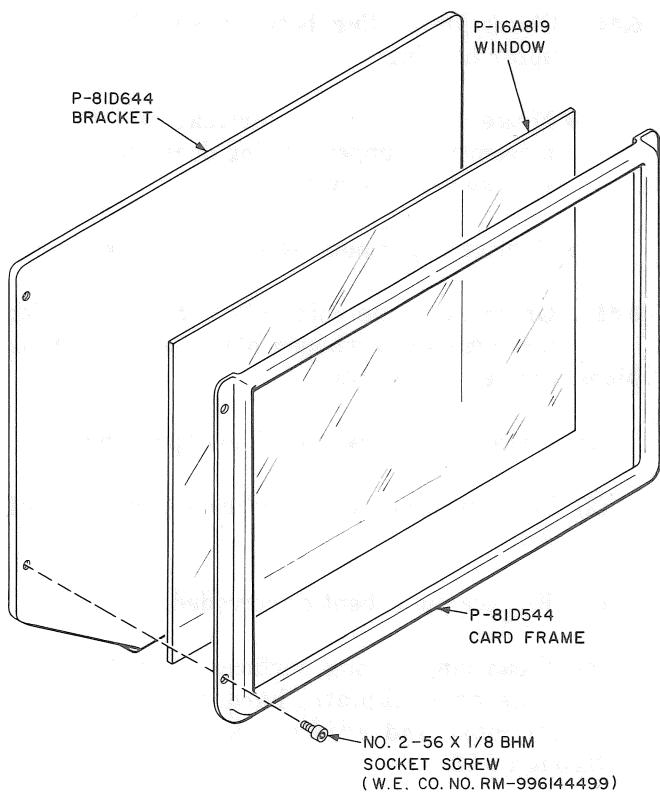

Fig. 34—8B-44 Card Holder
- (2) Remove three No. 4 hex nuts.
- (3) Install new 8B card holder using reverse procedure.
- 6.51 Replace damaged or missing screws and plastic windows. Slot head frame screws shall be replaced with No. 2-56 by 1/8 BHM socket screws (Fig. 34).